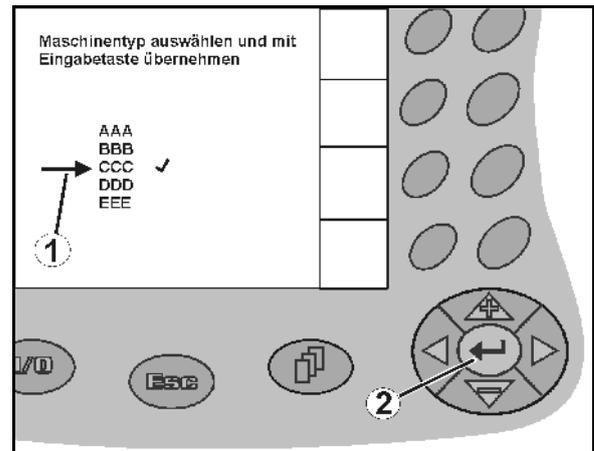

Fig. 14
- Position the selection arrow (Fig. 14/1) with  and .
-  Confirm the selection (Fig. 14/2).